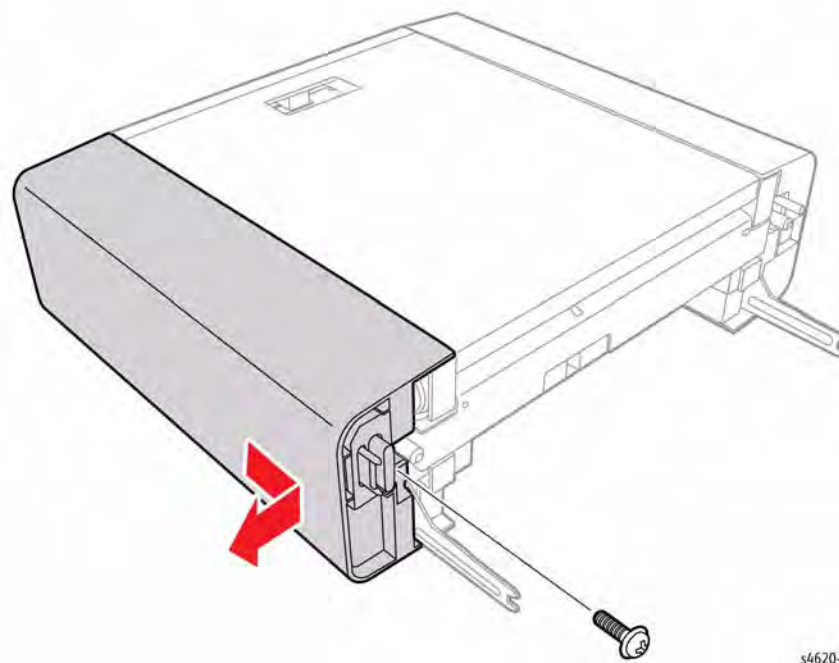

Figure 1 Remove the right cover
3. Remove 1 screw and release 1 hook that secures the cover to the Mailbox, Figure 1.